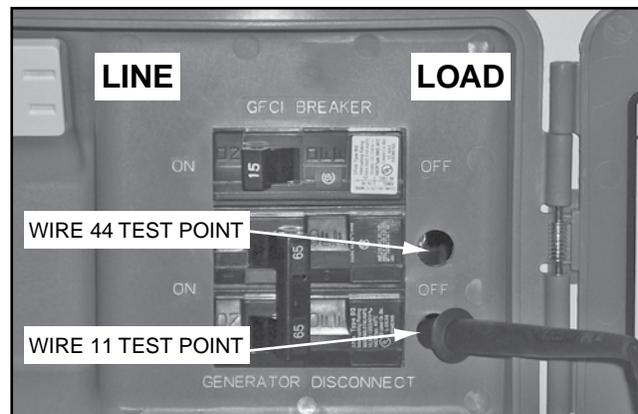

Figure 4. Test 7 Test Points
6. **See Figure 4 for proper testing points.** Connect one meter test lead to Wire 11 on the load side of the main breaker. Connect the other meter test lead to Wire 22 (power winding). Note the resistance reading and compare to the specifications in the front of this manual.